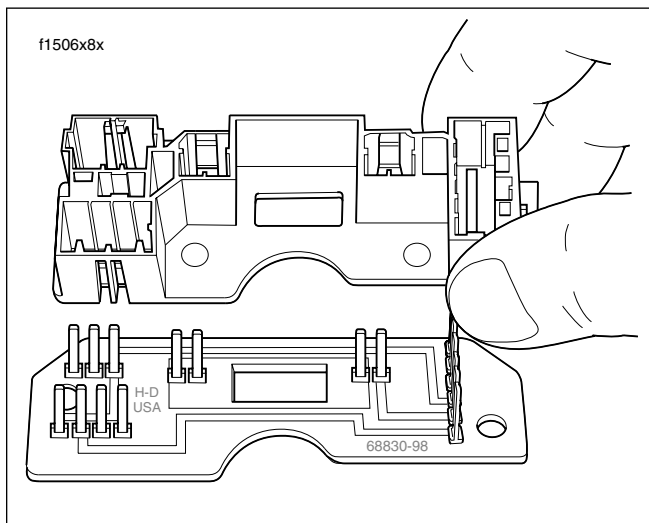

Figure 8-43. Place Pin Housing Over Circuit Board
3. Place pin housing over circuit board, if removed. See Figure 8-43.